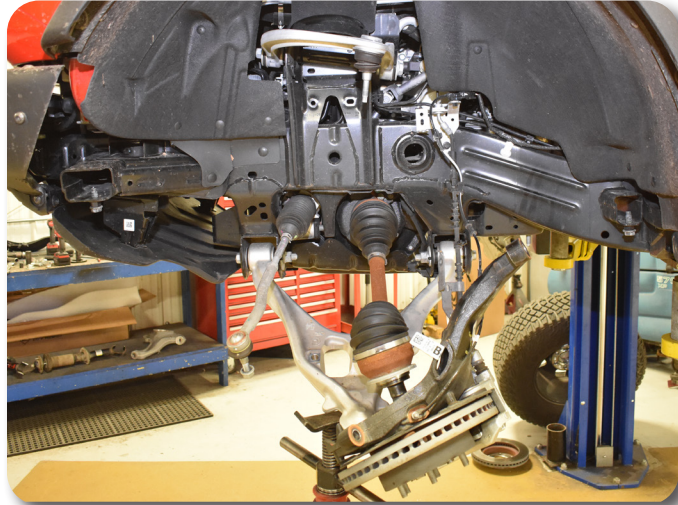

Figure 10
- Using the jack, lower the lower control arm / knuckle assembly and remove the strut from the vehicle Figure 10.